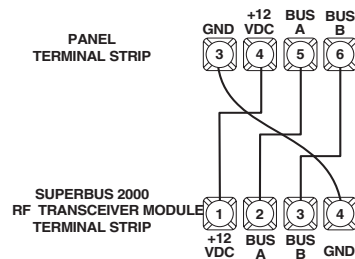

Figure 3. Wiring Module to Concord Panel
2. Wire the module to the panel power and bus terminals as shown in Figure 3.